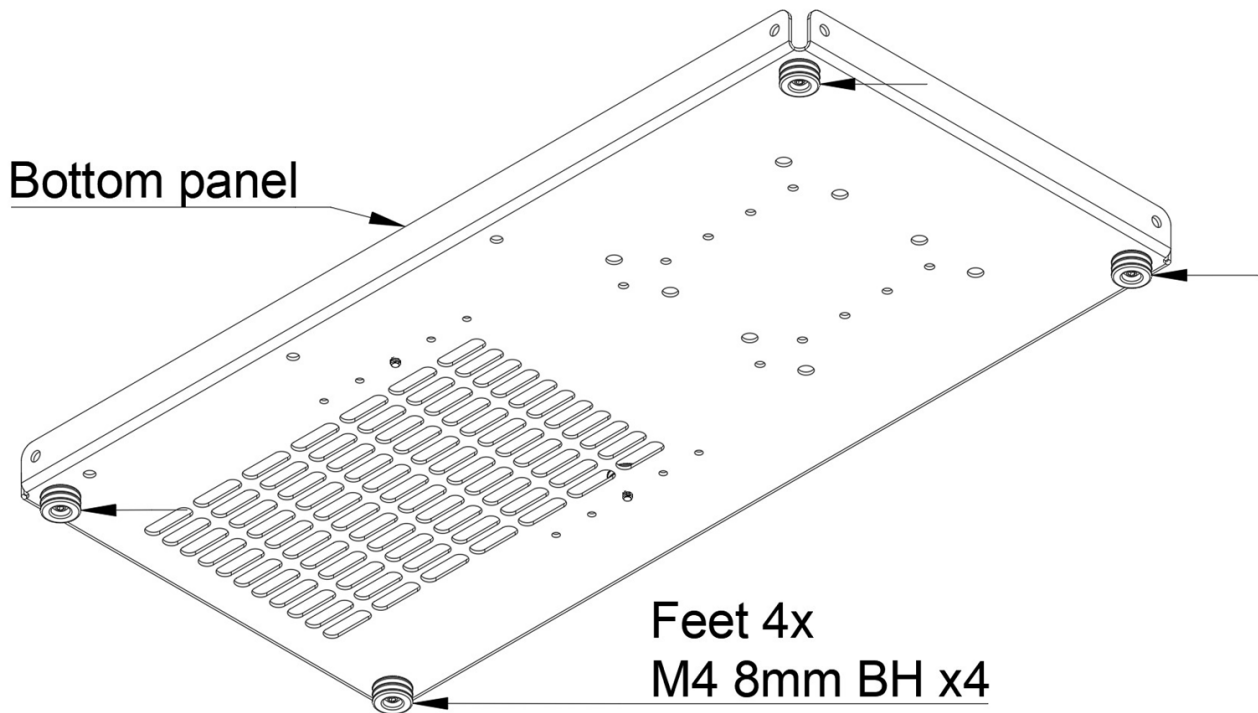

Figure 1A
- Step 1: Install feet to the bottom side of the Bottom Panel according to Figure 1A using M4 8mm BH x4.